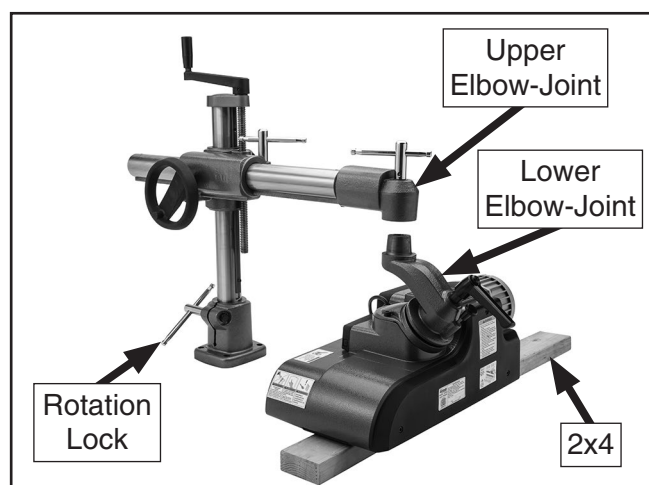

Figure 13. Upper and lower elbow-joints aligned.
7. Loosen vertical and horizontal travel locks and rotation lock, then use horizontal handwheel and vertical travel handle to position upper elbow-joint directly over hub of lower elbow-joint (see **Figure 13**).